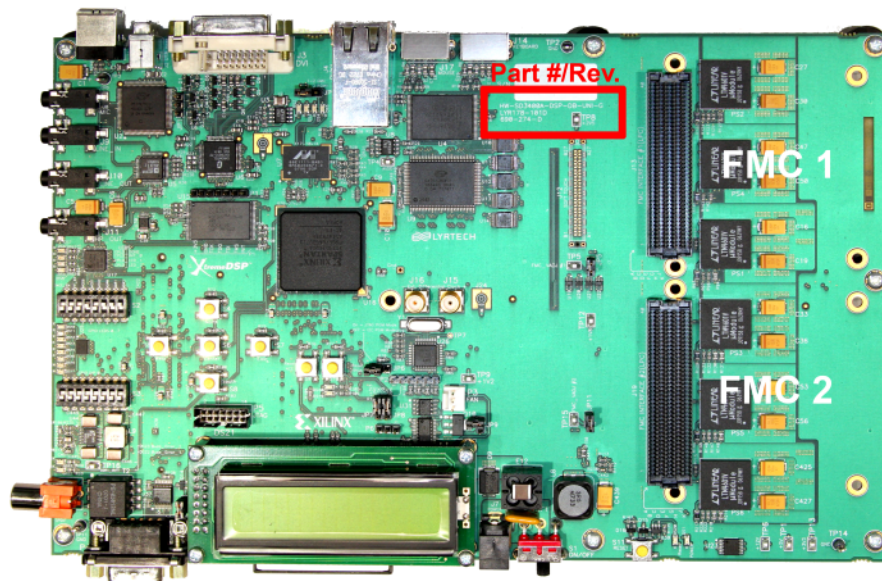

Figure 1-1: Spartan-3A DSP Development Platform Rev. D
Note: To identify the revision version of carrier board you have, see Figure 1-1. The line of text below the part number should end in the revision letter given above (for example, in Figure 1-1, the line below the part number is “LYR178-101D”, so this is the correct revision).
2. Locate the FMC 2 connector (J19). See Figure 1-1.